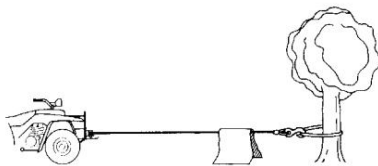

Figure 4
11. It's a good idea to lay a heavy blanket or jacket over the wire rope near the hook end when pulling heavy loads (Figure 4). If a wire rope failure should occur, the cloth will act as a damper and help prevent the rope from whipping.